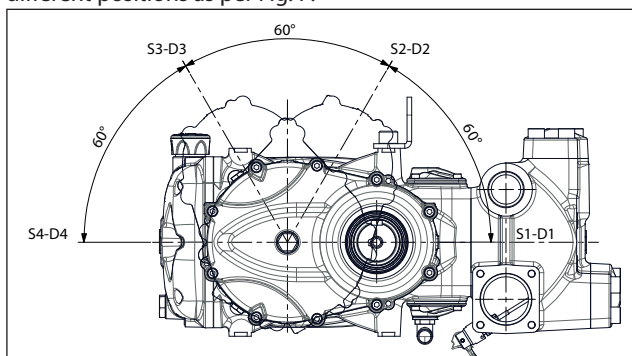

Fig. 7
(Fig. 7). This amount will be slightly lower for pos. ② and ③.
In addition it is possible to position the reduction unit in 4 different positions as per Fig. 7.